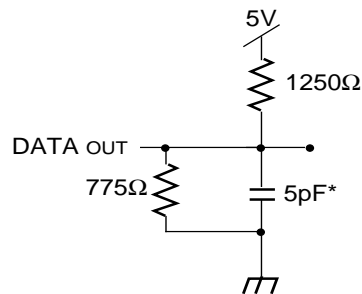

Figure 2. Output Test Load (for t_{HZ}, t_{LZ}, t_{wz}, and t_{ow})
1. Transition is measured ±500mV from Low or High-impedance voltage Output Test Load (Figure 2).
1. Transition is measured $\pm 500mV$ from Low or High-impedance voltage with Output Test Load (Figure 2). This parameter is guaranteed by device characterization but is not production tested.
7. This parameter is determined by device characterization, but is not production tested. Transition is measured +/- 500mV from steady state with the Output Test Load (Figure 2).